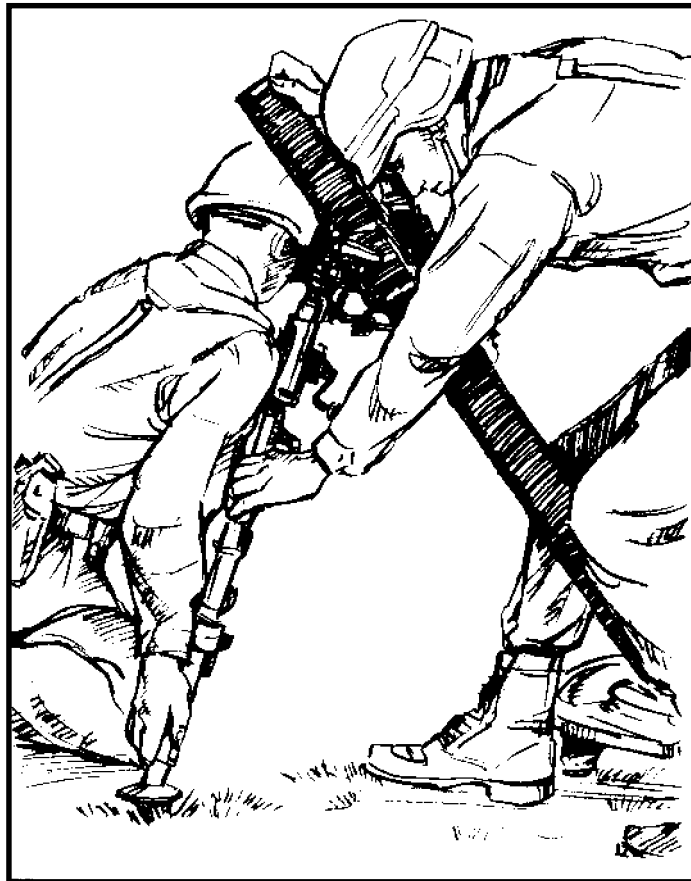

Figure 5-9. Large deflection changes.
c. The assistant gunner moves into position to the front of the bipod on his right knee, places his right shoulder against the gear case, and grasps the bipod legs (palms out), lifting until they clear the ground enough to permit lateral movement. The gunner moves the mortar while the assistant gunner steadies it. The gunner attempts to horizontally maintain the traversing mechanism. To make the shift, the gunner places the fingers of his right hand in the muzzle (Figure 5-9), his left hand on the left leg, and moves the mortar until the vertical line of sight is aligned approximately on the aiming post. When the approximate alignment is completed, the gunner signals the assistant gunner to lower the bipod by pushing down on the mortar.